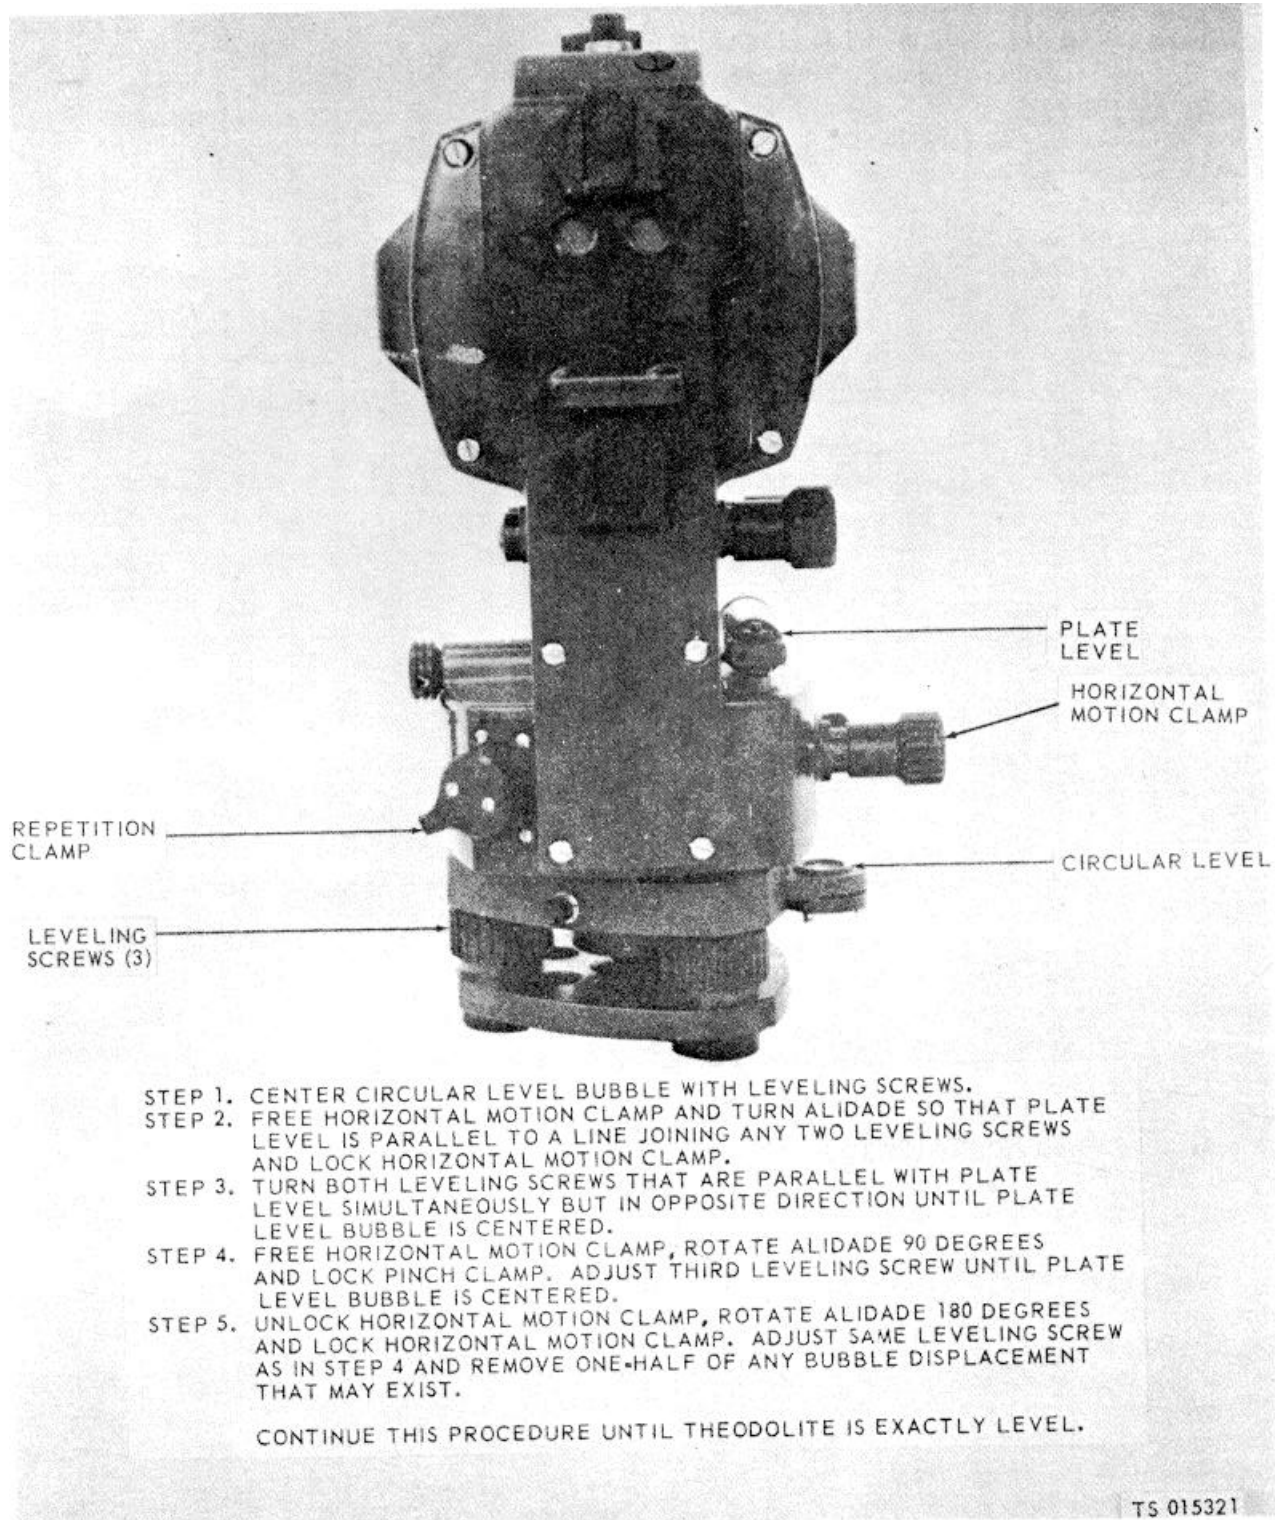

Figure 2-14. Theodolite, leveling.
(3) Level theodolite as given in figure 2-14. If theodolite cannot be leveled, proceed with the following steps.
(4) Perform all tests in order given. Do not adjust theodolite unless a particular test indicates same amount of error at least three times.
(1) Testing. Level theodolite as given in figure 2-14. If plate level bubble fails to center, proceed as given in step (2) below.
(1) Testing. Level theodolite with plate level as given in figure 2-14. If circular bubble fails to center, proceed as given in step (2) below.
(a) Carefully level theodolite (fig. 2-14) using plate bubble as reference. Level telescope using